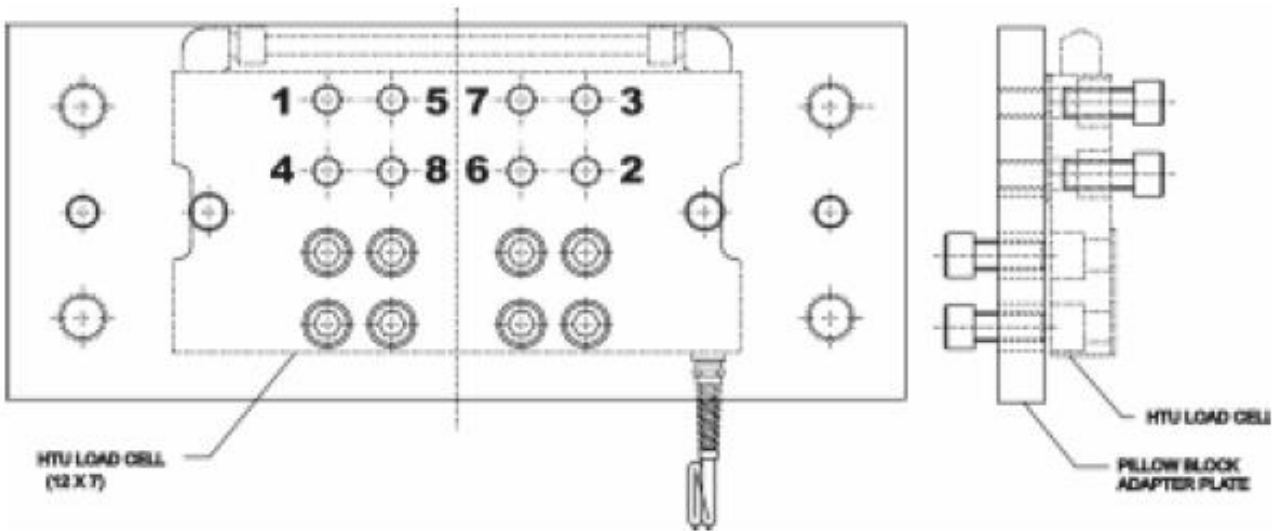

Figure 2-3. HTU to Pillow Block Plate Assembly
1. Place the pillow block adapter plate on a clean flat surface with the threaded holes in back and the through holes forward (Figure 2-3).
3. Apply thread locker (BLH P/N 147379) to the eight (8), 5/8-11UNC2Ax11/2 inch long sockethead cap screws.
5. Using the pattern shown in Figure 2-3, sequentially tighten all screws to one thousand (1000) inch-pounds.